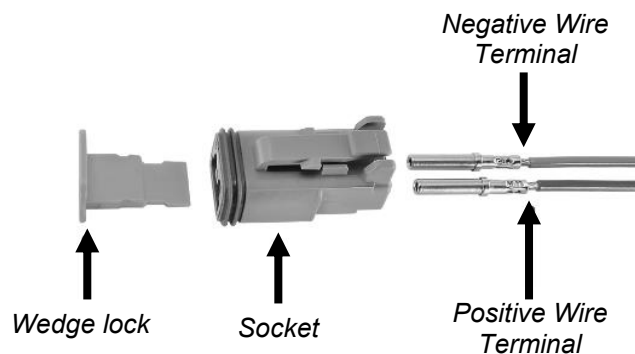

Figure 3.
3. Assemble the connector as per Figure 3. Ensure the terminal polarity is correct as per Table 1.